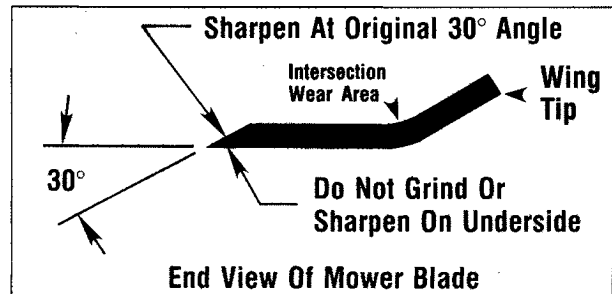

FIGURE 5-6 Mower Blade Profile For Sharpening
- Grind cutting edge at same bevel as original. See Figure 5-6. Sharpen only top of cutting edge to maintain sharpness.
- Examine ends of blade carefully, especially intersection where flat section of blade turns up to form "wing tip." See Figure 5-6. Since sand and abrasive material can wear metal away in this area, the blade should be replaced when metal thickness has worn to $\frac{1}{16}$ " or less.